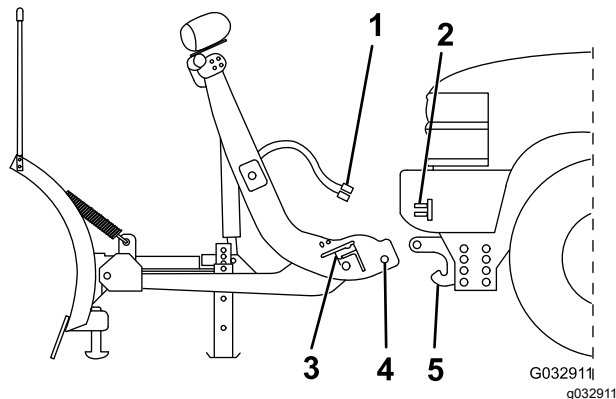

Figure 26
3. Line up the vehicle with the snowplow and drive forward until the lower pin contacts the push-beam pin receiver (Figure 26).
- Remove the electrical-plug dust-covers and connect the plow wire harness to the vehicle wire harness (Figure 26).